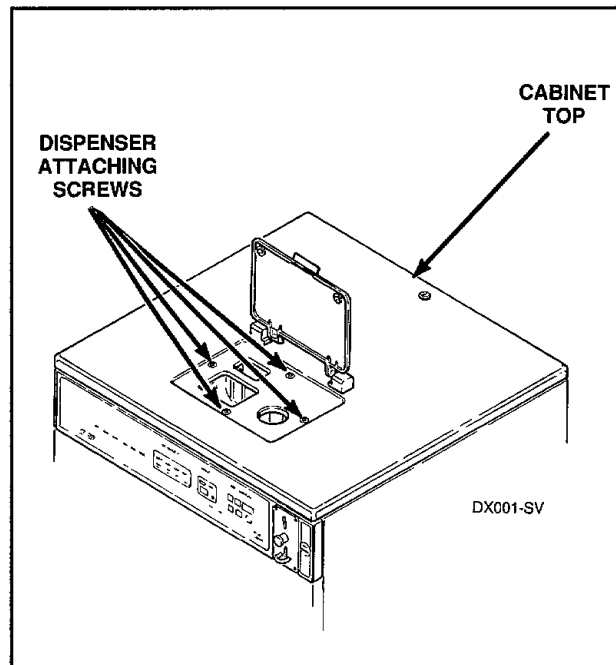

Figure 1
- a. Open dispenser door and remove four screws holding dispenser to cabinet top, *Figure 1*.
- Open dispenser door and remove four screws holding dispenser to cabinet top, *Figure 1*.